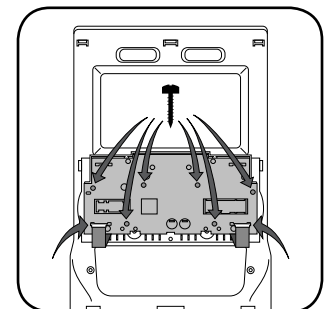

Fig. 5.1
Secure this board to the dash kit with (6) short T10 screws. Note: Make sure the ribbon cables are not obstructing the screw holes on the sides. (Fig. 5.1)